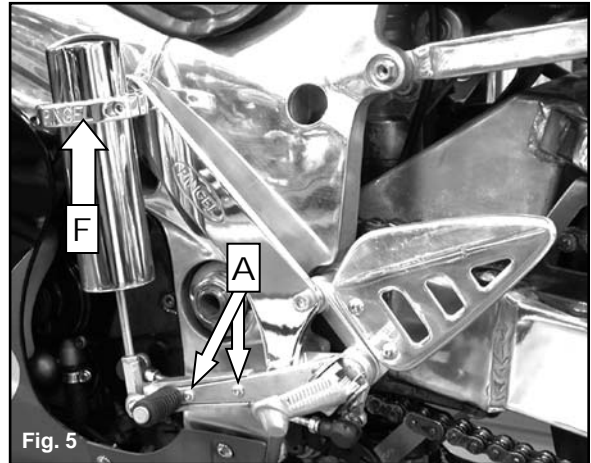

Fig. 5
Bolt the Pingel shift lever bracket onto the stock shift lever using the two 10-24 x 1/2" button head socket cap screws with thread locker applied, as shown in figure 5. Reattach the shift linkage rod to the shift lever, slide the shift lever back onto the foot peg bracket and install the bolt to hold the shift lever on. Tighten the jam nut to factory specifications.
Install the shift cylinder onto the shift cylinder support bracket using the Pingel clamp, (F) figure 5, and (2) 1/4-20 x 3/4" socket head cap screws. Just snug these bolts for now, as adjustment will be needed later. The rod end on the shift cylinder should be able to go past the point of mounting in each direction sidewise. The point of mounting is that flat surface upon which the rod end bolts to the shift lever bracket. Install the supplied 1/4-20 x 1" button head socket cap screw through the rod end of the shift cylinder and through the (2) 1/4" washers, applying thread locker and tightening into the shift lever bracket.